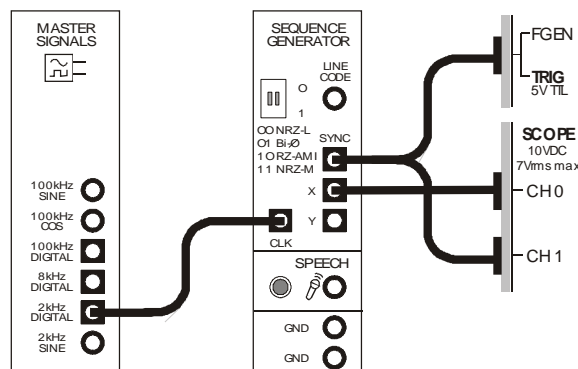
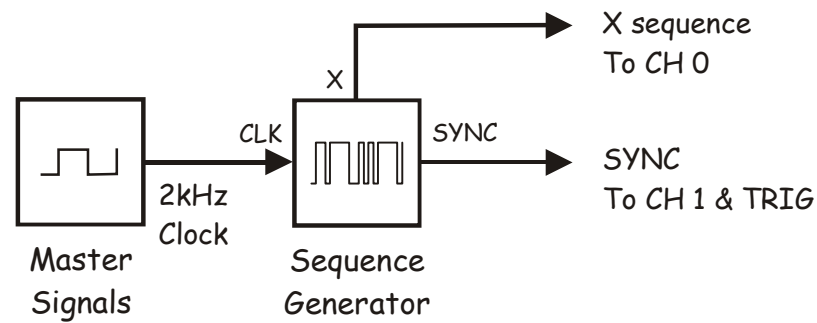

Figure 4
Figure 5
8. Connect the set-up shown in Figure 4 below.
The set-up in Figure 4 can be represented by the block diagram in Figure 5 below. The Master Signals module's *2kHz DIGITAL* output is used to provide the Sequence Generator module's bit-clock. The Sequence Generator module's *X* output is a continuous 31-bit sequential binary number. The module's *SYNC* output is a pulse that corresponds with the sequence's first output bit on every repetition.